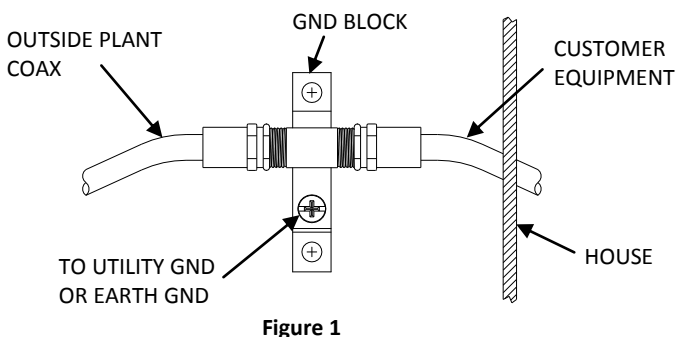

Figure 1
2. Identify the location where the tii 220 Isolator is to be installed (See Figure 1).